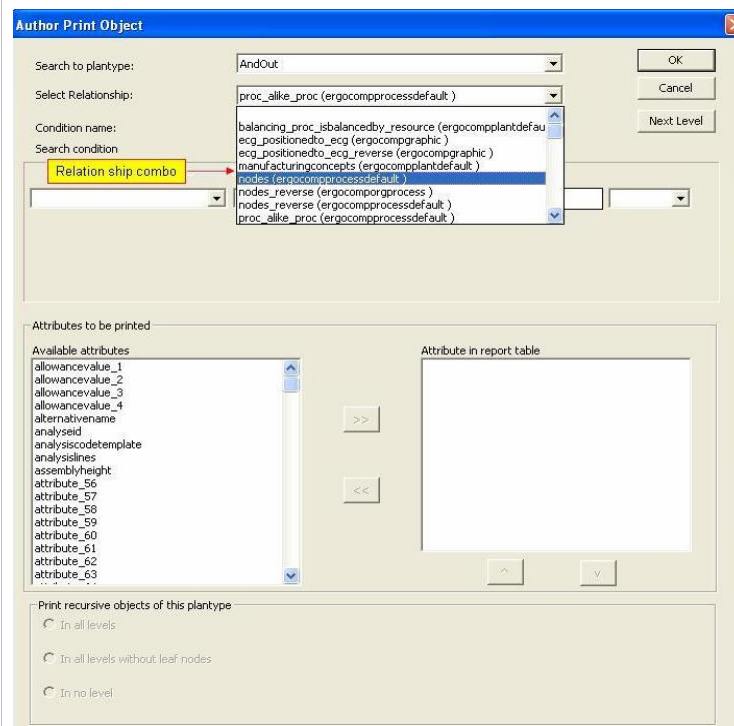

Figure 132: Author Print Object Dialog with Select Relationship Combobox
- 5) Fill the **Author View** dialog, Figure 132. Select WorkPlan in **Search to Plan type**, as soon as you select the plan type the **Select Relationship** combo is enabled which list all the possible relations that can be associated with Work Plans.